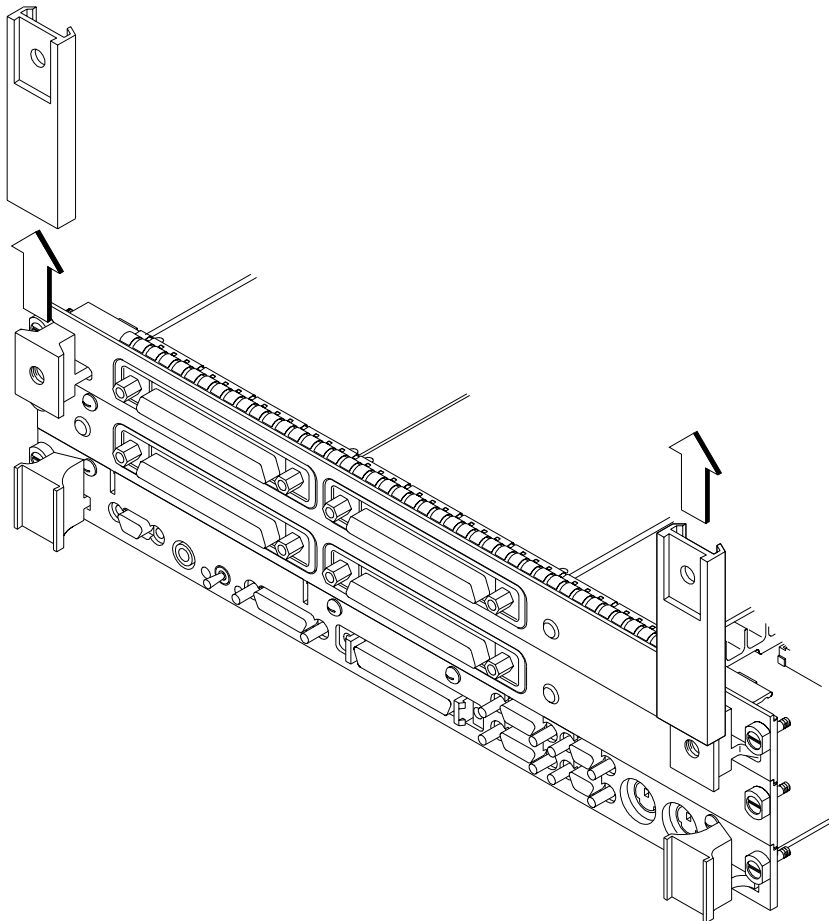

Figure 5-7 Removing the Sleeves
- 2 Remove the ejector handle sleeves, as shown in Figure 5-7.